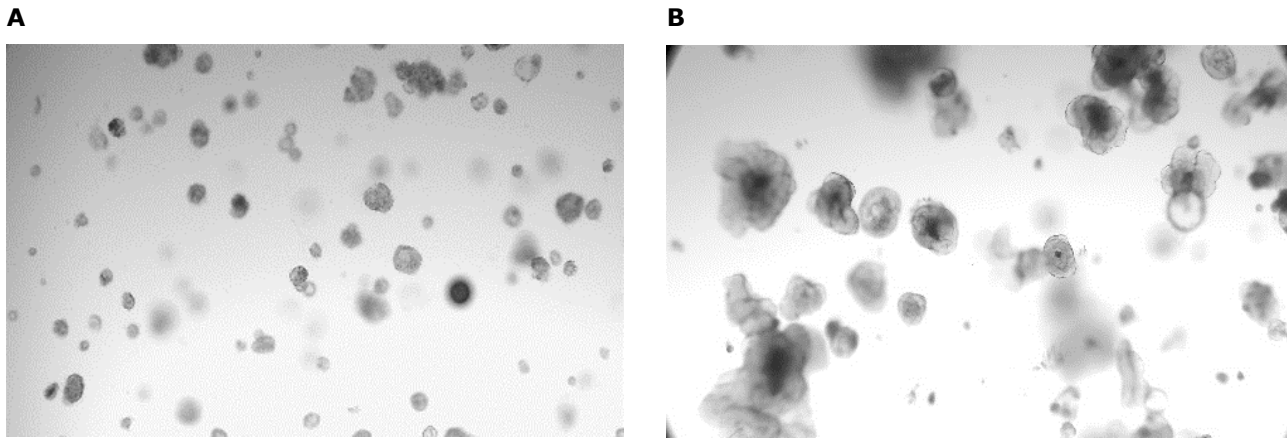
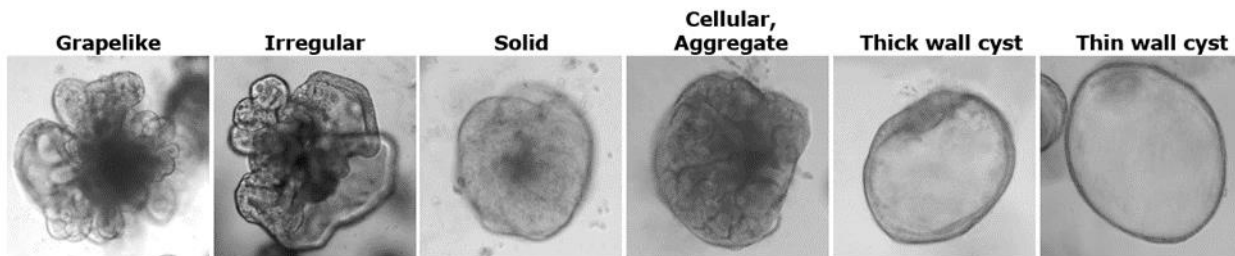

Figure 2: **A.** Morphology and density of LPO at day 0, **B.** and day 8 post thawed using protocol described. Image taken at 4X magnification.
Figure 3: Diversity in LPO morphologies. LPOs can appear in different sizes, densities, and structures. Pictures taken at 10X magnification.
14. Observe domes under the microscope and capture images on days 0, 2, 4, 8 and the day of passage. Figure 2 shows the density and morphology on Days 0 and 8. Figure 3 displays various LPO morphologies at Day 8.